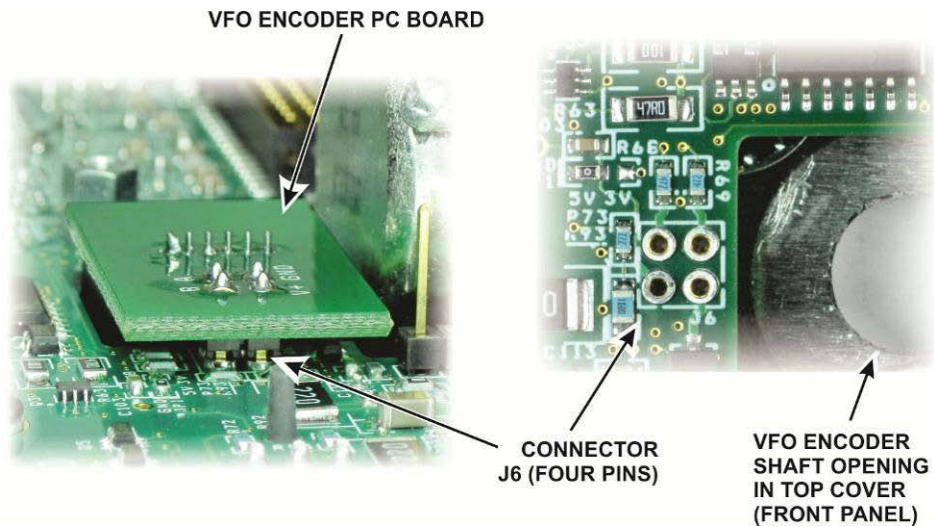

Figure 16. Installing the VFO Encoder.
- Carefully position the encoder with its shaft through the opening in the front panel while mating the four pins with J6 (see Figure 16).